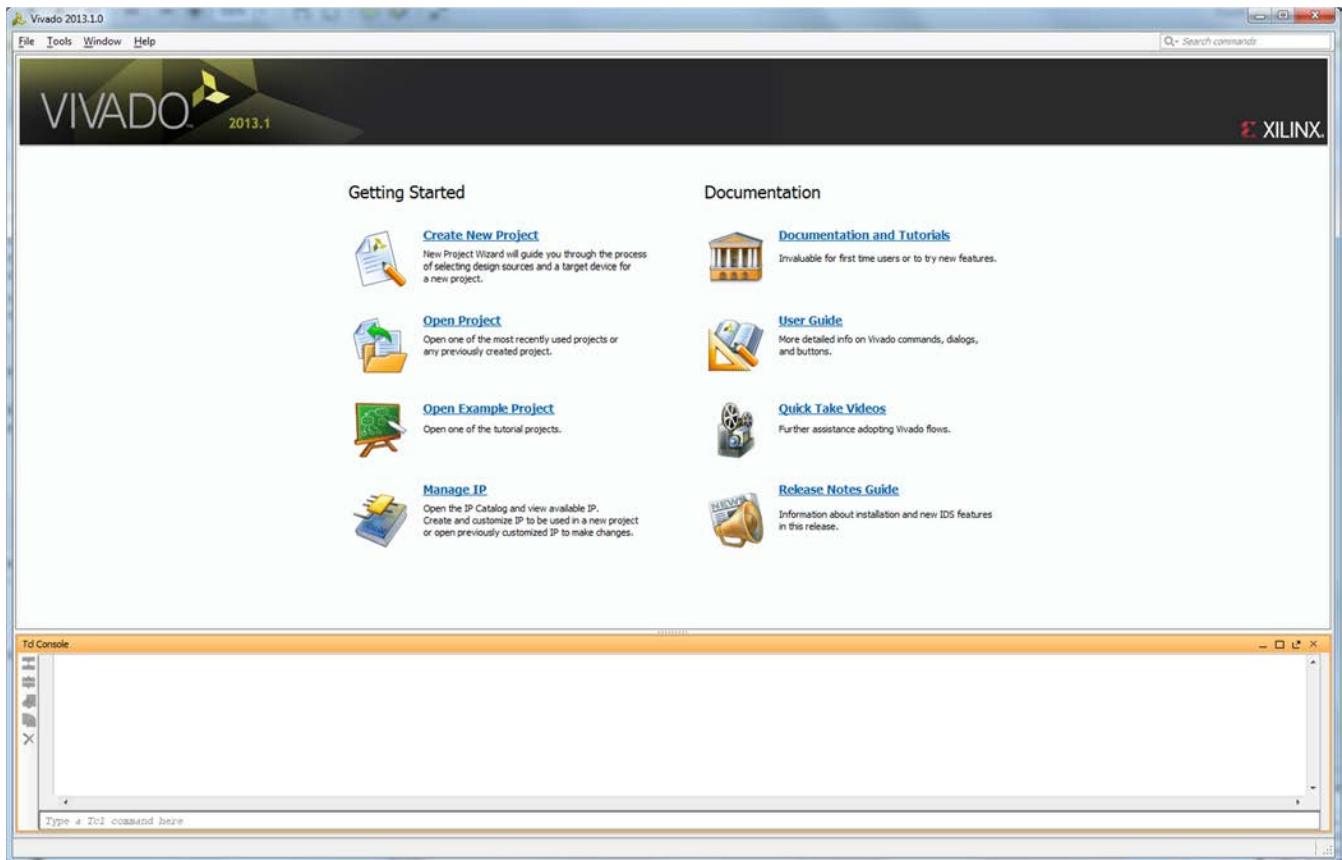
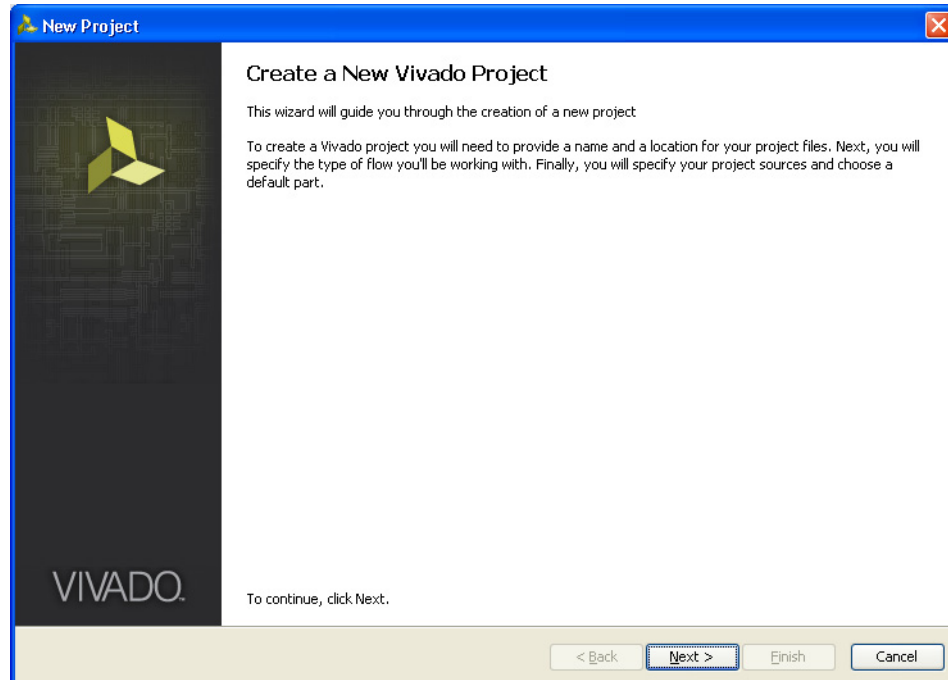

Figure 5-1: Vivado Tool
Figure 5-2: Create a New Vivado Tool Project
1. Invoke the Vivado IP (see Figure 5-1).
2. To create a new project, click the **Create New Project** option shown in Figure 5-1 to open the page as shown in Figure 5-2.